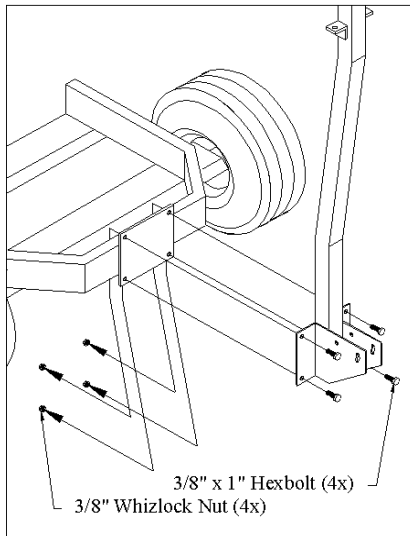

Fig. 2
2. Place frame (2) on blocks and level the frame with axles towards the bottom and frame channels facing upwards. Attach vertical upright (3) to container frame bracket with 3/8" x 1" HHC and whizlocks. Do not tighten. Fig. 2